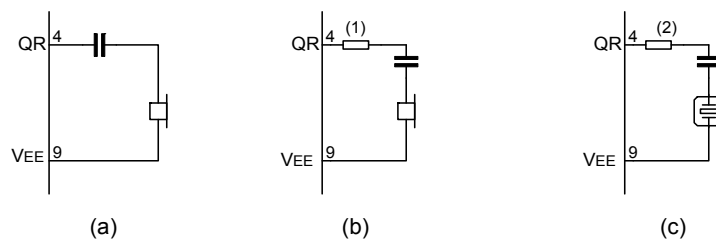

Fig.11 Alternative receiver arrangement
The receiving amplifier has one input (IR) and a non-inverting output (QR). Earpiece arrangements are illustrated in Fig.11. The IR to QR gain is typically 31dB (when $R_4=100k\Omega$). It can be adjusted between 20 and 31dB to match the sensitivity of the transducer in use. The gain is set with the value of R_4 which is connected between GAR and QR. The overall receive gain, between LN and QR, is calculated by subtracting the anti-sidetone network attenuation (32dB) from the amplifier gain. Two external capacitors, C_4 and C_7 , ensure stability. C_4 is normally 100pF and C_7 is 10 times the value of C_4 . The value of C_4 may be increased to obtain a first-order low-pass filter. The cut-off frequency will depend on the time constant $R_4 \cdot C_4$. The output voltage of the receiving amplifier is specified for continuous-wave drive. The maximum output voltage will be higher under speech conditions where the peak to RMS ratio is higher.